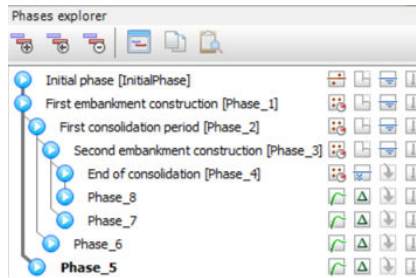

Figure 116: Safety calculation phases
9. Follow the same steps to create new calculation phases that analyse the stability at the end of each consolidation phase. The various phases after defining safety calculation is shown in Figure 116 (on page 136).